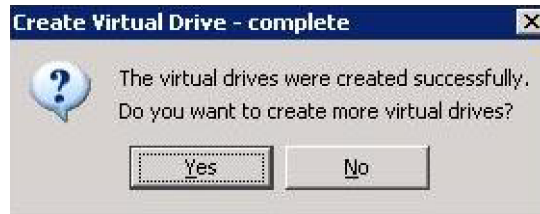

Figure 97. Option to Create Additional Virtual Drives
8. After the configuration is completed, a dialog box notifies you that the virtual drives were created successfully, as shown in Figure 97. If more drive capacity exists, the dialog box asks whether you want to create more virtual drives. If no more drive capacity exists, you are prompted to close the configuration session.